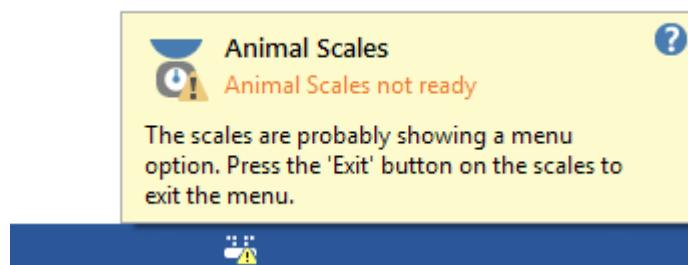

Figure 6. Example of the information shown when the scales have an error. Note the warning symbol on the I/O icon in the status bar.
- The scales may have some sort of error. In this case the I/O icon in the status bar will be shown with a warning symbol over it (see figure 6) and clicking the icon will display information about the error and how to fix it.